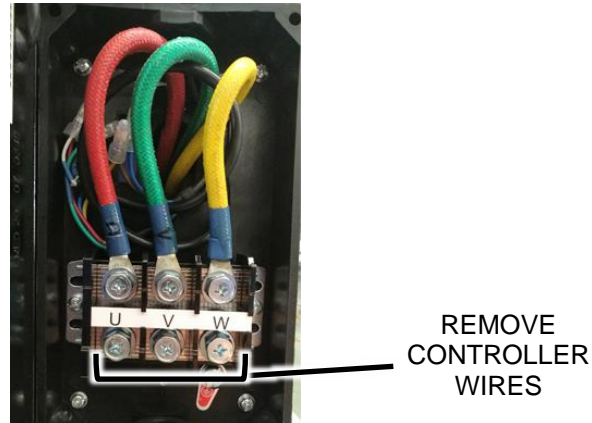

Figure 31
2. Disconnect machine power, see Figure 31.